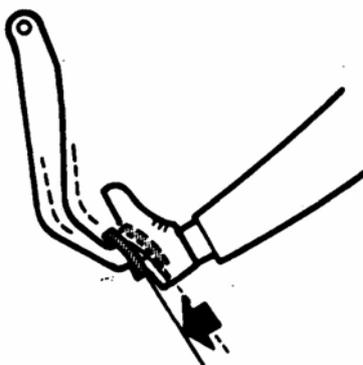

FIG.16-81
- (2) Start engine while depressing brake pedal, If pedal travel increases a little, operation is satisfactory. But no change in pedal travel indicates malfunction. (FIG.16-81)